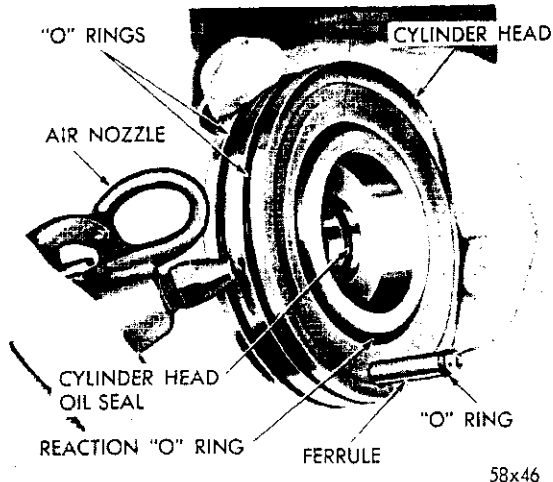

Fig. 39—Removing the Reaction Ring Seal from the Cylinder Head
(1) Remove the two "O" rings in the two outer grooves in the cylinder head.
(2) Remove the lower reaction "O" ring in the groove in the face of the cylinder head. Apply air pressure into the oil hole located in the groove between the two "O" ring grooves (Fig. 39).